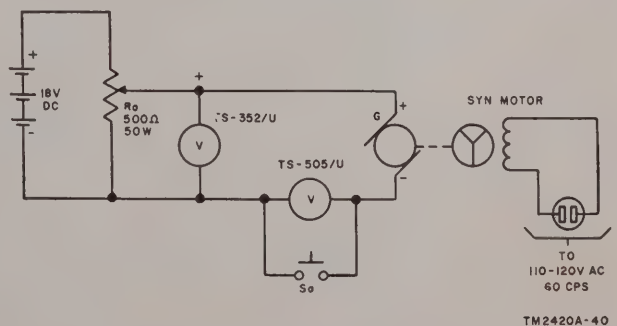

Figure 35. Dc generator test setup.
c. *Electrical Adjustments* (fig. 35). To make proper electrical adjustments to the generator (G), the following equipment is necessary: one variable resistance (Ra) (Sig C stock No. 6RP6905); Multimeter TS-352/U; Electronic Multimeter TS-505/U; one synchronous motor (SYN MOTOR) (Sig C stock No. 4TMU4); one pushbutton switch (Sa) (Sig C stock No. 3Z9558-39.11); and three dry cell batteries (BA-44). Proceed as follows to make adjustments:
- (1) Mechanically couple the generator (G) to the 1,800-rpm synchronous motor (SYN MOTOR).
- (2) Connect the generator (G), the TS-352/U and TS-505/U, the variable resistor (Ra), the three Batteries BA-44, and the switch (Sa) as shown in figure 35. Observe the polarities. (The polarity of the terminals of the generator (G) is indicated on the nameplate.) Leave the plus or minus lead to the batteries disconnected.
- (3) Using a screwdriver, set the magnetic shunt pinion (27, fig. 33) of the generator (G, fig. 35) to its middle position (1 turn from clockwise or counterclockwise position).
- (4) Connect the batteries into the circuit.
- (5) Adjust the variable resistor (Ra) until 10.8-volts are indicated on the TS-352/U.
- (6) Connect the synchronous motor to the power source. Drive the generator (G) at 1,800 rpm.
- (7) Push the switch (Sa).
- (8) Readjust the variable resistor (Ra) until the TS-505/U indicates zero (center scale).
- (9) Check the indication on the TS-352/U.
- (2) Gradually increase the ac voltage applied to the demagnetizer coil; keep the TS-505/U (fig. 35) on zero by adjusting the variable resistor (Ra) while watching the indication on the TS-352/U decrease.
- (3) Continue to increase the ac voltage until the TS-352/U indicates 10.8-volts while the TS-505/U remains on zero.
- (1) To increase the output, turn the magnetic shunt pinion (27) clockwise, and to decrease the output, turn the pinion counterclockwise.
- (2) Drive the generator (G, fig. 35) at 1,800-rpm in the opposite direction.
- (3) Rebalance the TS-505/U by adjusting the variable resistor, (Ra) and note the reading of the TS-352/U.